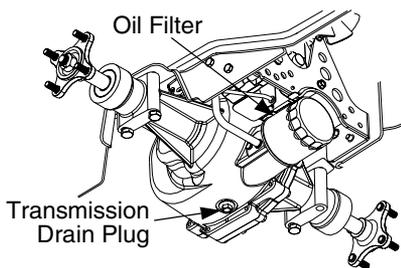

Figure 22
- Clean the area around the transmission drain plug to prevent debris from entering the transmission case. Remove the drain plug and allow the transmission oil to drain into a clean container having a capacity of more than 5 quarts. Reinstall the drain plug. Refer to Figure 22.